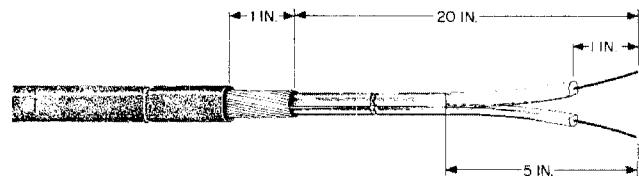

Fig. 4—Preparation of D Underground Wire for D Cable Closure
3.10 To join D Underground Wire directly to a cable conductor in a D Cable Closure, prepare the wire as shown in Fig. 4.